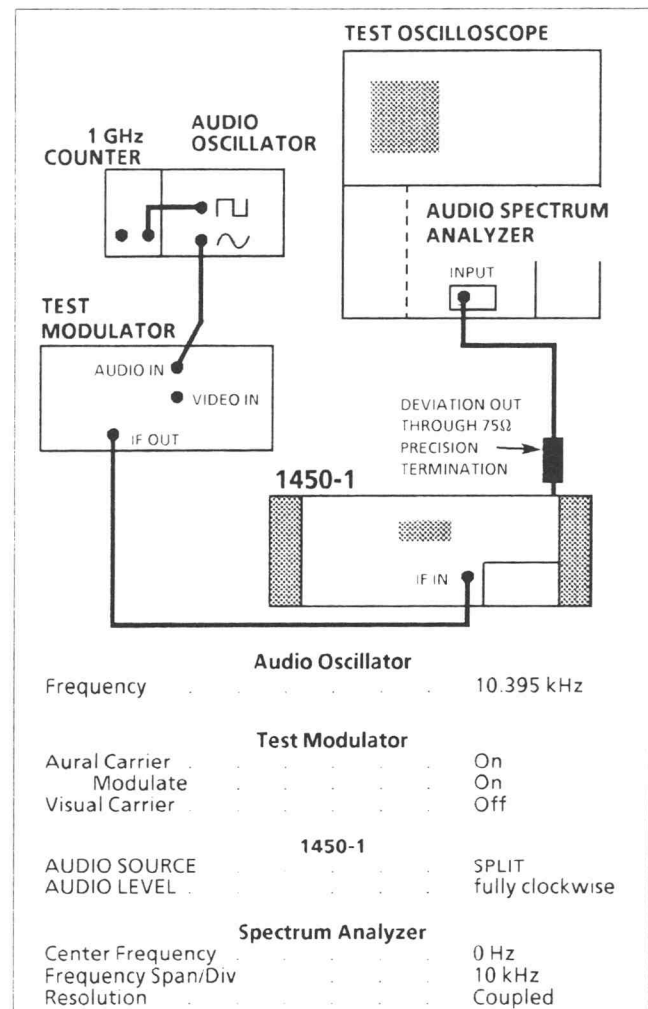

Fig. 4-64. Setup for adjusting 1 MHz bandpass filter
- b. Connect and set the test equipment as shown in Fig. 4-64.